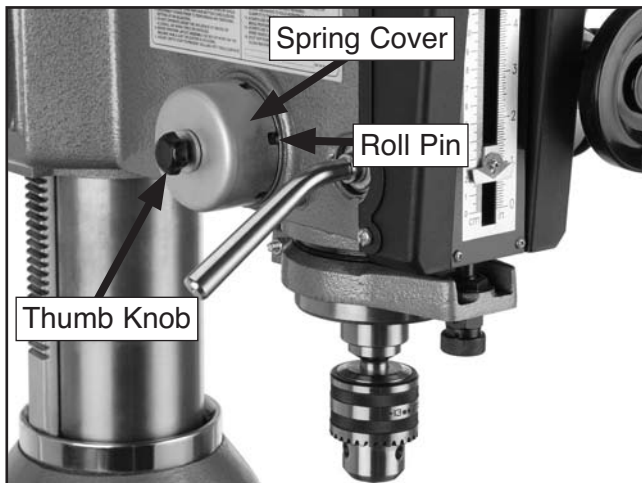

Figure 43. Spring cover.
1. Loosen black thumb knob two or three turns (**Figure 43**).